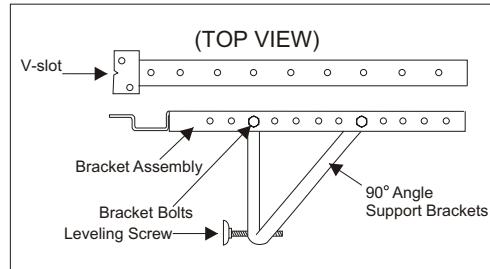
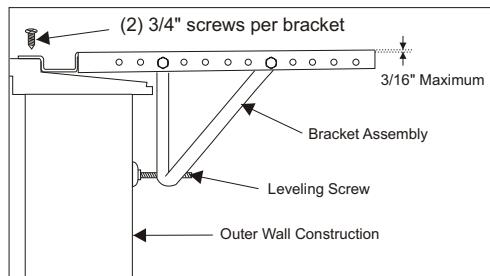
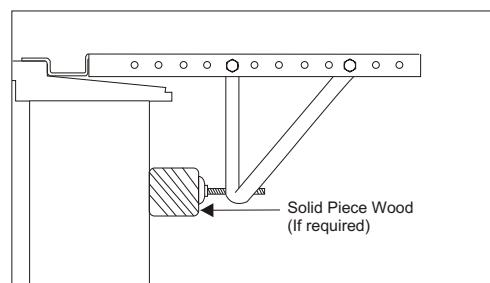

Fig. 5
Fig. 7
Fig. 8
A. Attach the **bracket assembly** to **90° angle support brackets** (Fig. 5) using (2) **1 1/2" bolts**. Two bolts per bracket. Secure with the (2) **1/4" lock washers** and (2) **1/4" nuts**. **DO NOT** immediately tighten these bolts as it may be necessary to adjust the depth of the **bracket assembly**, depending on the depth of your window sill. See (Fig. 7). Install the two **leveling screws** into the **90° support brackets**. Test the bracket assembly in the window before cabinet installation. If the leveling screws are distanced too far away from the wall to provide stability, it may be necessary for you to fill this area with a solid piece of wood. See (Fig. 8).
C. For proper condensation run-off it will be necessary to adjust the angle/pitch of the window brackets. This is accomplished by adjusting the distance of the leveling screw on the outer wall. The maximum angle/pitch should not exceed more than **3/16"**. See (Fig. 7).
Use a solid piece of wood to provide stability. This will be required when sills are extra deep. See (Fig. 8).
C. Check to make sure that the cabinet is slanted slightly downward on the outside. If necessary, re-adjust support bracket as shown in (Fig. 7).